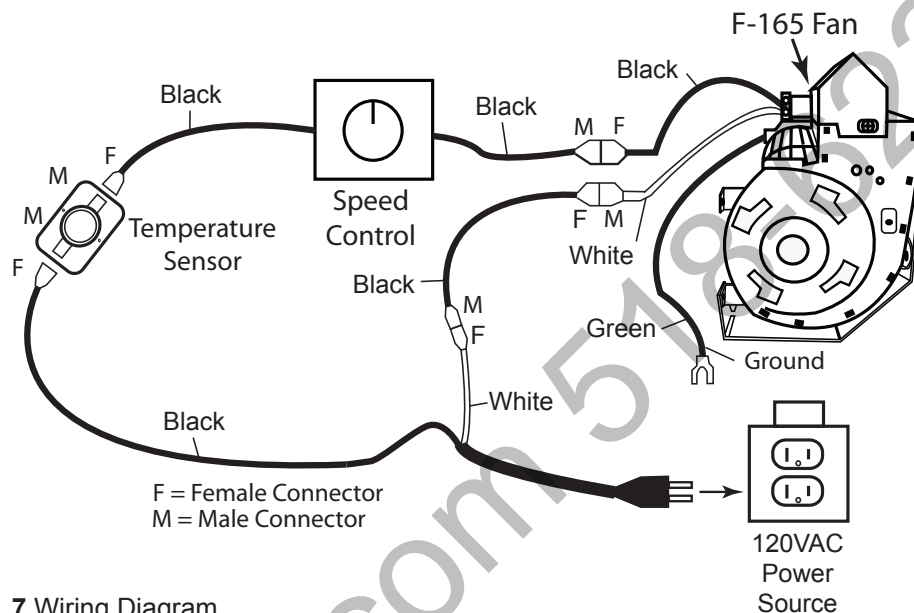

Fig. 7 Wiring Diagram
7. After properly wiring (Fig. 7) the FK-165-RT turn the 120VAC service to **ON** at the circuit breaker and turn your speed control to **ON**. **Note:** The temperature sensor will activate the fan when temperature at the sensor reaches 110°F. This may take 15 to 20 minutes. If after 30 minutes the fan does not turn ON then check wiring, ensure speed control is turned ON and ensure temperature sensor is against the combustion chamber. If sensor is laying directly on the base (floor) of the fireplace the fan may never turn ON. **Note:** Blue wire can be use as an extension if needed.